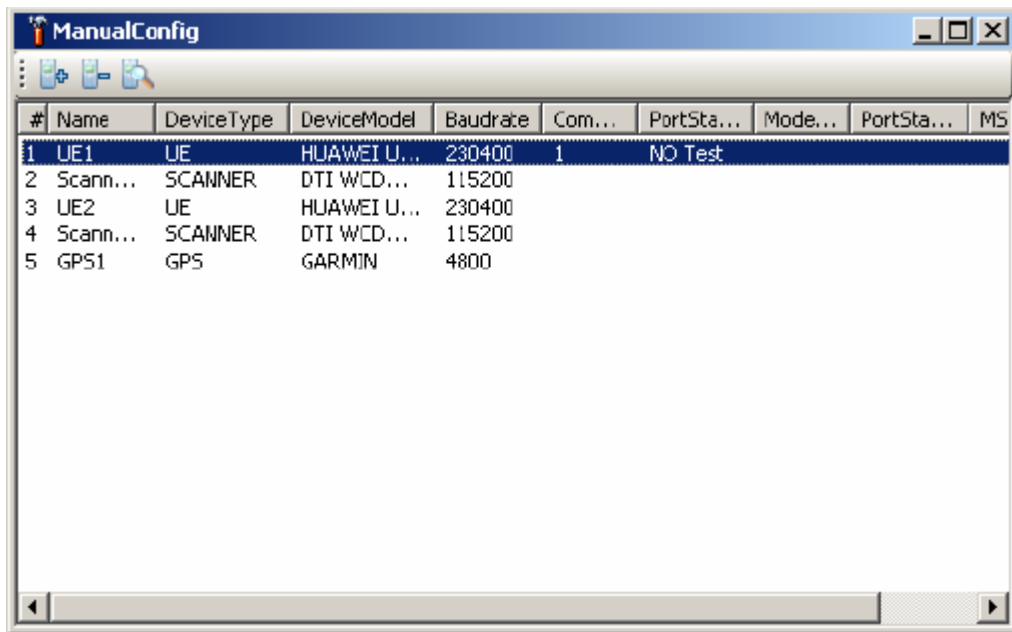

Figure 6-8 ManualConfig window
- 1) Choose **Configuration > Hardware Config > Manual Config** on the main menu. The **ManualConfig** window is displayed, as shown in Figure 6-8.